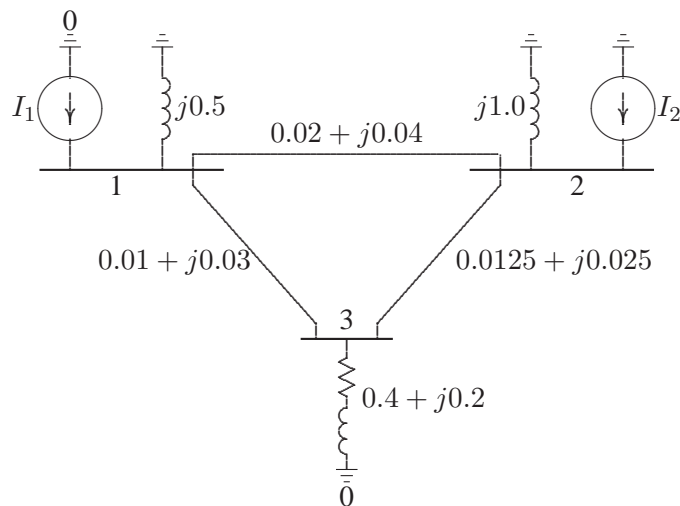

FIGURE 49
6.2. A power system network is shown in Figure 49.